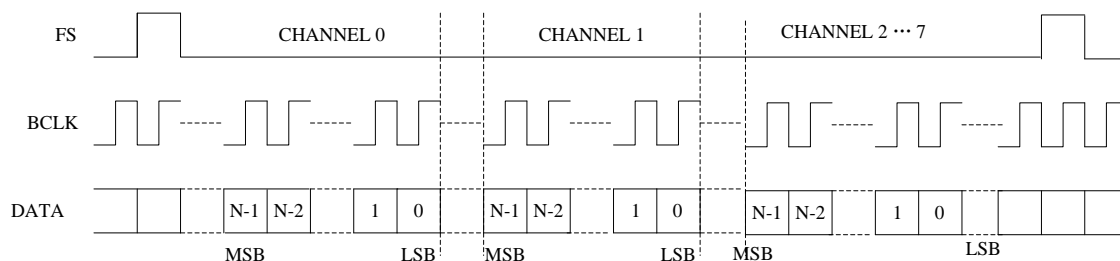

Figure 14 PCM Time Slot Audio Data
Normally, the DAC data is clocked immediately after the Frame Sync (FS); however, in PCM Time Slot Mode, the audio data can be delayed. These delays can be seen before the MSB in **Figure 14**.